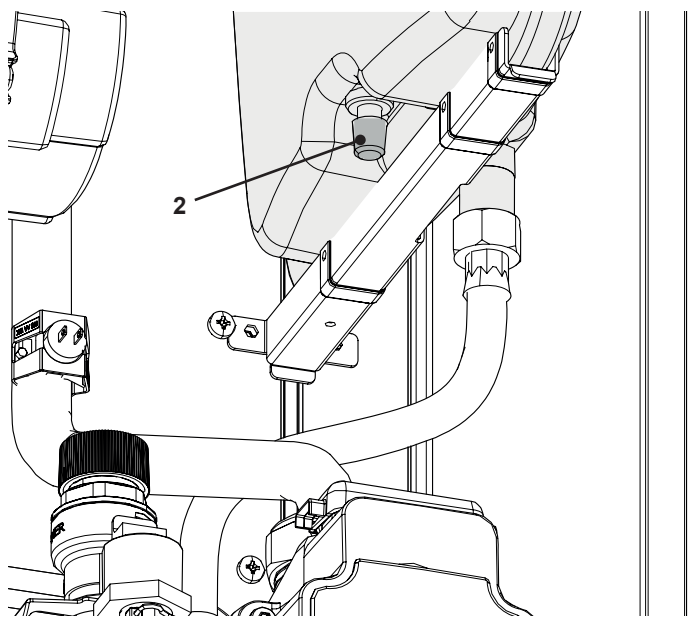

Figure 11.2
- 2 Remove the protective cap "2" in Figure 11.2 from the valve on the top of the expansion vessel and connect a suitable air pressure gauge.